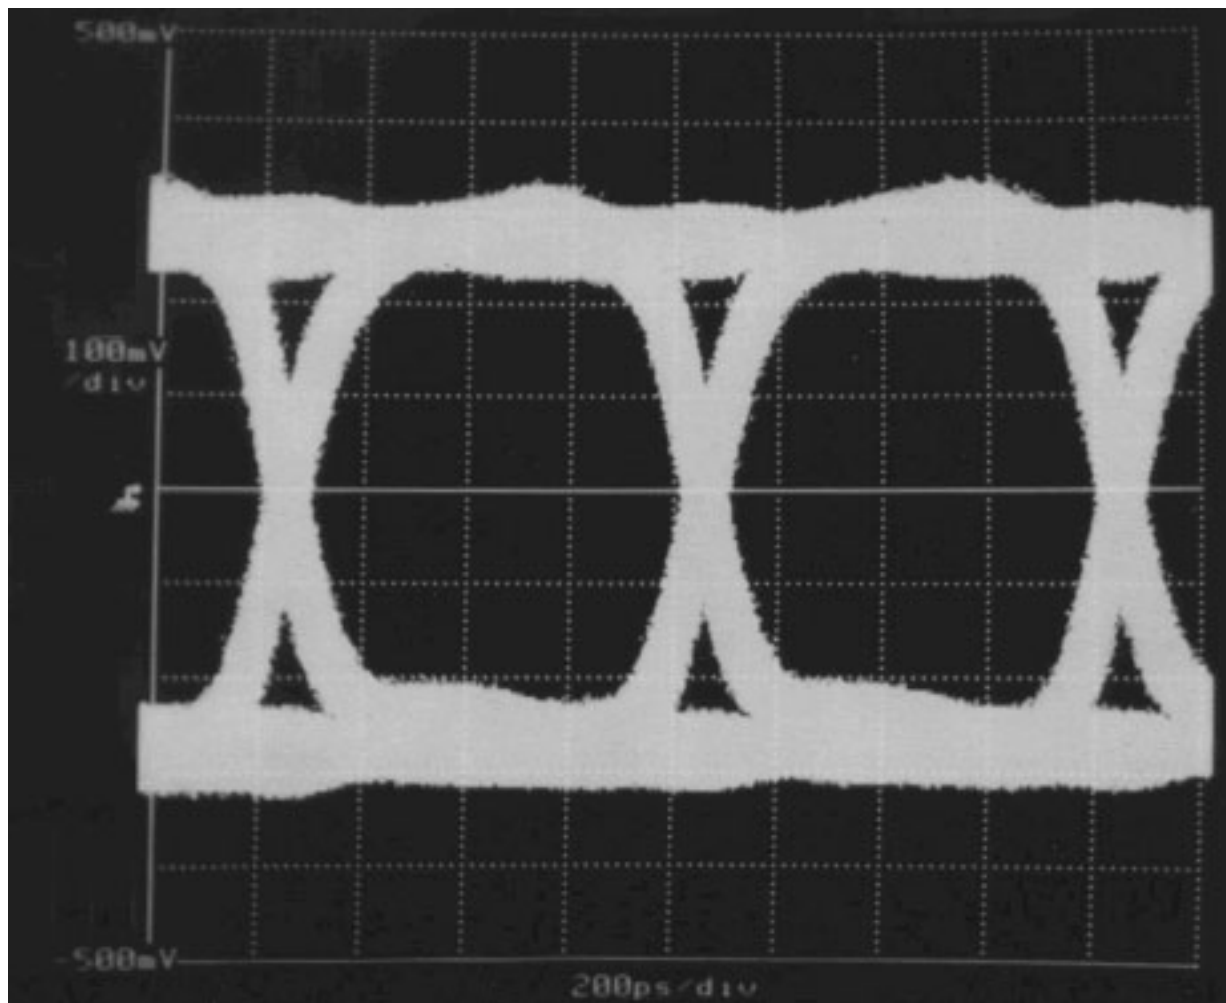

Figure 4-2. MC92600 Data-Eye Using Recommended Setup
5. Observe XMIT_x_P or XMIT_x_N. The transmitter should now be outputting random data. Setting the digital sampling oscilloscope in infinite persistence mode will display a data-eye. An example of a full-speed data-eye is shown in Figure 4-2.